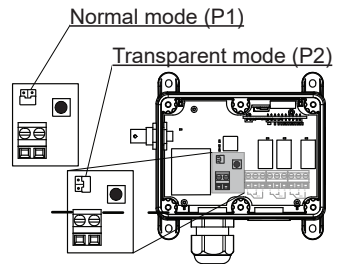

Figure 5. Operating mode selection with jumper J1
4. Change jumper J1 to desired position P1 or P2 (see Figure 5).